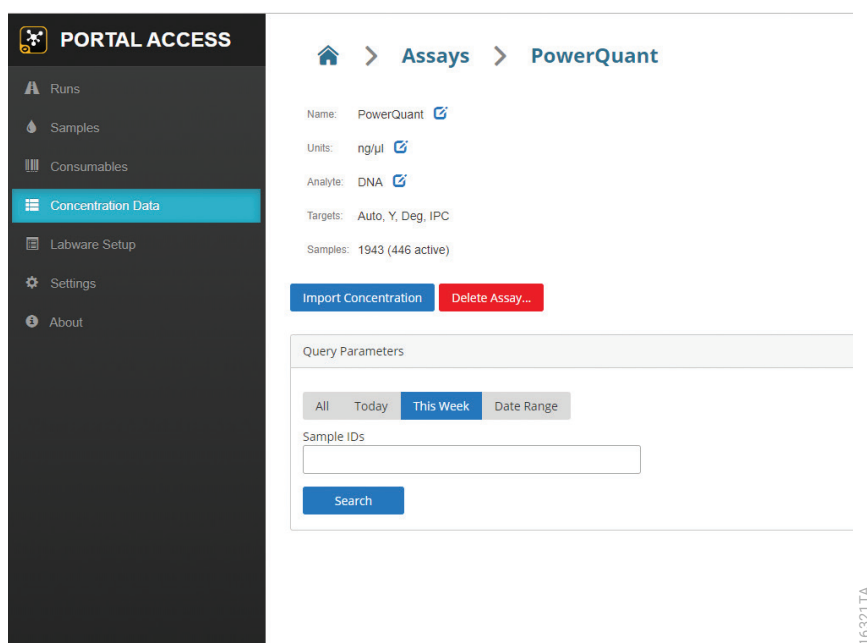

Figure 20. Assay specific information. Information associated with an existing assay can be edited from the assay specific screen.
1. Select an assay from the table of existing assays on the 'Assay' screen. This will open a screen specific to the selected assay (Figure 20).